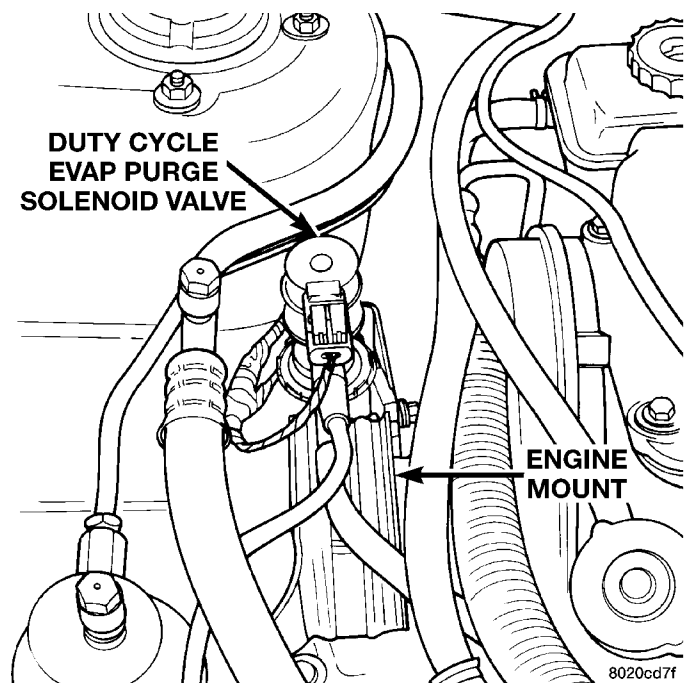

Fig. 39 Duty Cycle Purge Solenoid
(10) Inspect the electrical and hose connections at the duty cycle purge solenoid (Fig. 39).